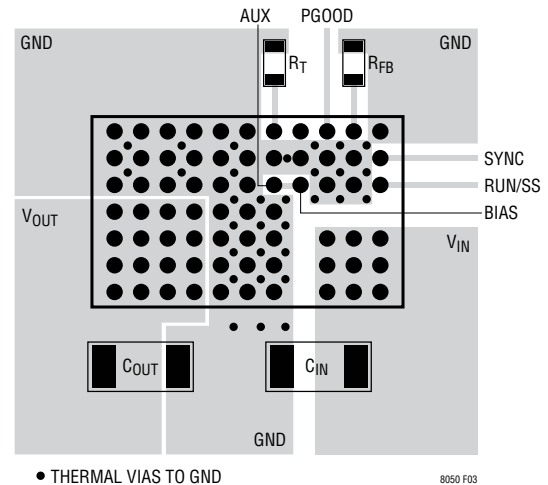

Figure 3. Layout Showing Suggested External Components, GND Plane and Thermal ViAs
minimize EMI and ensure proper operation. Even with the high level of integration, you may fail to achieve specified operation with a haphazard or poor layout. See Figure 3 for a suggested layout. Ensure that the grounding and heat sinking are acceptable.
6. For good heat sinking, use vias to connect the GND copper area to the board's internal ground planes. Liberally distribute these GND vias to provide both a good ground connection and thermal path to the internal planes of the printed circuit board. Pay attention to the location and density of the thermal vias in Figure 3. The LTM8050 can benefit from the heat-sinking afforded by vias that connect to internal GND planes at these locations, due to their proximity to internal power handling components. The optimum number of thermal vias depends upon the printed circuit board design. For example, a board